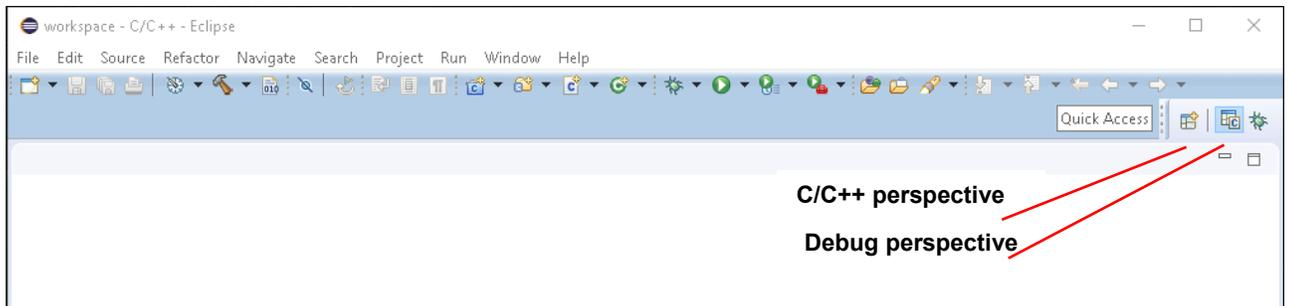

Figure 1. Eclipse home page.
2. Double-click eclipse.bat. The Eclipse home page appears in the C/C++ perspective by default. **Note:** Only the top portion of the Eclipse home page with the menu and icon bars is shown in **Figure 1**.